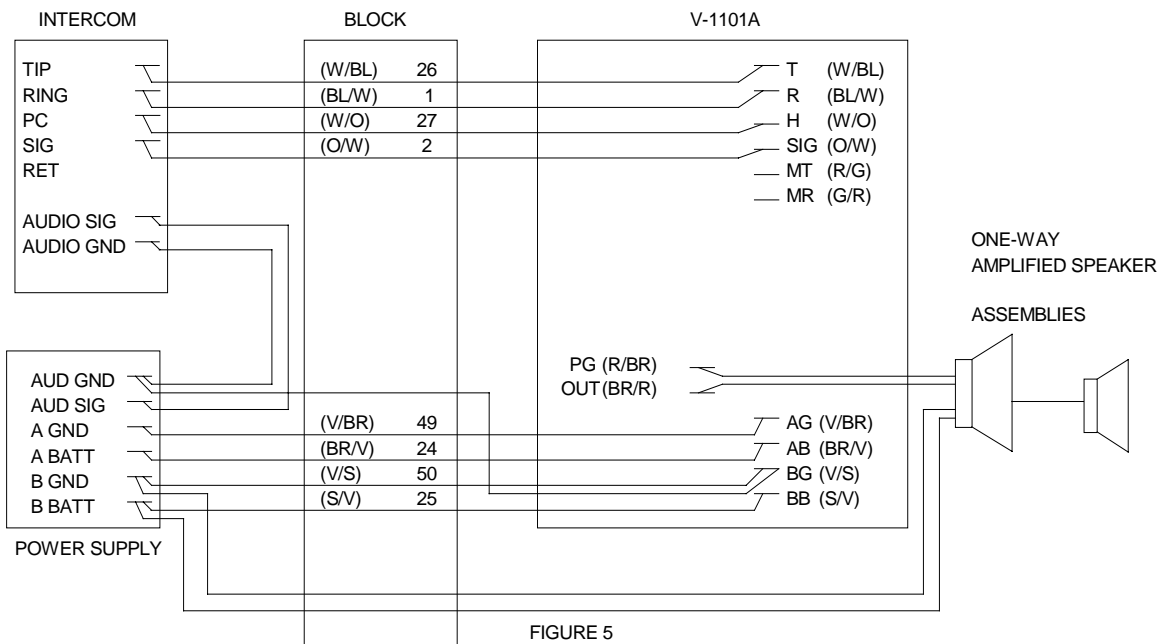

FIGURE 5
When connecting the V-1101A to an intercom number (Figure 5) four leads are required from the intercom: Tip and Ring to supply audio, a Page Control Lead, and a Signal Lead. The Page Control Lead must supply a Ground whenever the intercom is in use, and must be open when the intercom is idle. This lead is used to release the V-1101A at the end of a page. The intercom may be wired to use 10 Vac, 18 Vac, or 105 Vac for signaling. The intercom signal must be momentary, i.e., the signal must be present for approximately 1 second and then drop off. A continuous signal will prevent the V-1101A from operating.
1. No output at speakers.	1. Check for audio on the Red/Brown pair of the V-1101A while paging. <ul style="list-style-type: none"> (a) If audio is present: Verify proper audio and power wiring to speakers. Try connecting a speaker in the equipment room: Connect the Tip and Ring leads directly to the Red/Brown pair of the V-1101A and connect the -24 Vdc and ground leads to the power supply. Test again. (b) If no audio: Refer to Wiring Instructions and complete the power test (step 7). Correct any problems and test again. If there is still no audio, then return to the installation Figure used and verify ALL connections. Use a meter to verify the connections from the punchdown block to the amphenol. If there is still no audio and you used Figure 5 Intercom Access, connect a bell or buzzer to the V-1101A H and SIG leads. Dial the page access number. If the bell or buzzer does not ring, then you are either not getting a page control from the intercom, or you have connected the wrong half of the signal pair to the V-1101A SIG lead.